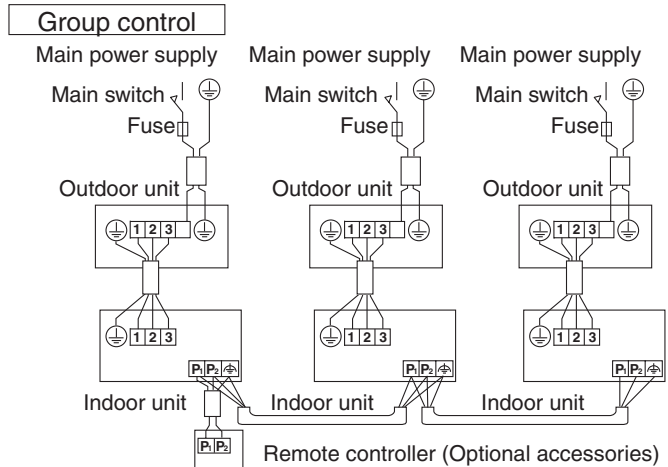

Fig. 26
- **Group control:** 1 remote controller controls up to 16 indoor units. (All indoor units operate according to the remote controller) **(Refer to Fig. 26)**